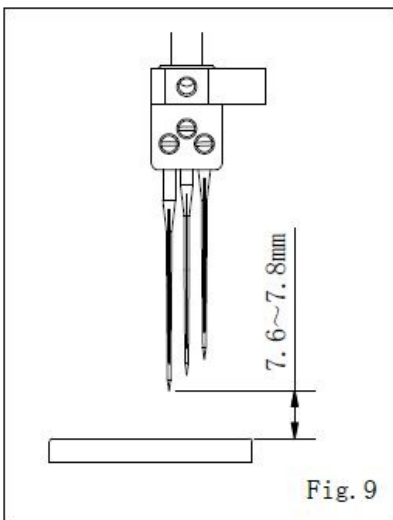

Fig. 9
1. 先将针棒升到最高处，此时最长针的针尖与针板的距离为 7.6~7.8mm。(图 9)
1. Please lift the Needle Bar to the highest position. During this time, the standard height between the longest right needle point and Needle Plate are 7.6~7.8 mm. (Fig. 9)